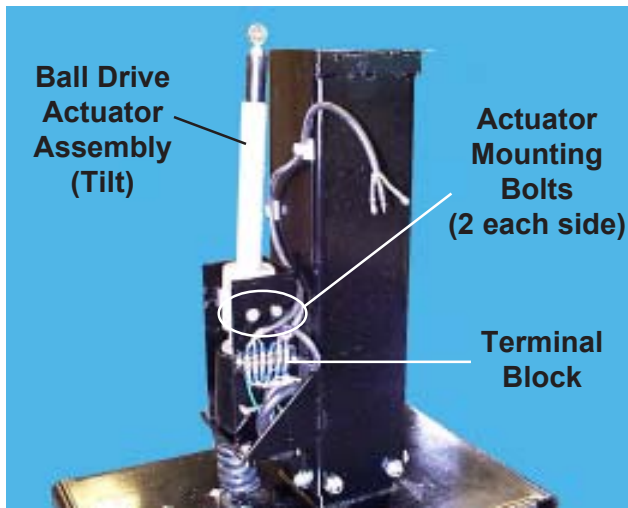

Figure 37. Main Column with Covers Removed
21. With a small flat-blade screwdriver, remove the actuator cord black, white and red wires from the terminal block on the main column (Figures 37 and 38).
22. With a 1/2-in. wrench, remove the four actuator mounting bolts (Figure 37).
4. Secure the actuator in place with the four actuator mounting bolts (Figure 37).
5. Connect the three wires from the actuator cord to the terminal block (Figures 37 and 38).